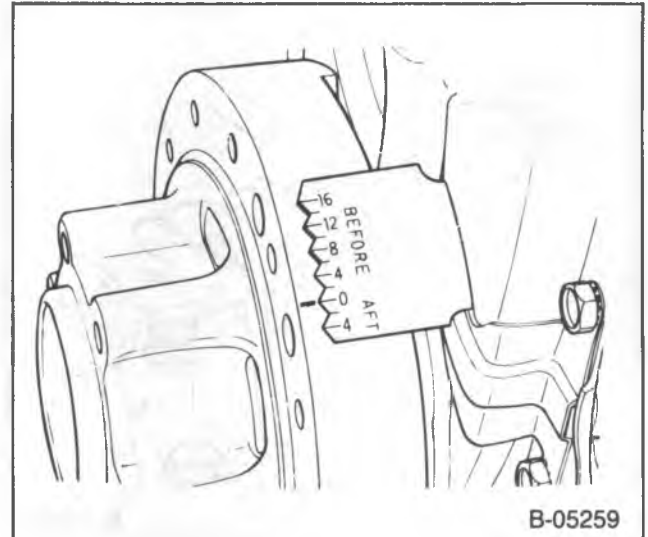

Figure 59—Timing Marks (Typical)
1. Turn the crankshaft until the timing mark on the vibration damper is lined up with the "0" mark on the timing marker (figure 59) and cam lobes #7 and #9 (counted from the front of the engine) are up.